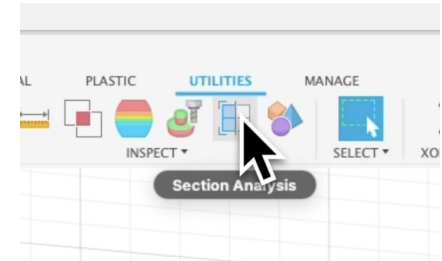

Figure 1.6
- Found under **Utilities** > **Section Analysis**, this tool allows you to create a temporary cross-section view through your model (see Figure 1.6).